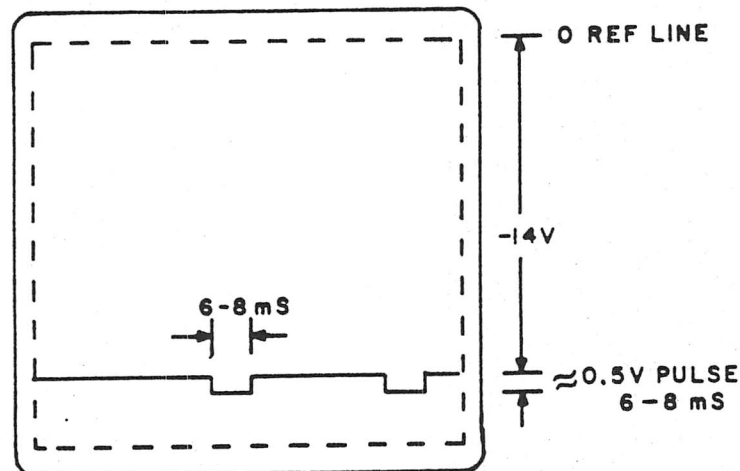

Figure 4-6. Blanking Pulse Display
3. On the oscilloscope display, verify the presence of a -14 Vdc shift with a 0.5 volt pulse of approximately 6-8 milliseconds, as shown in Figure 4-6.